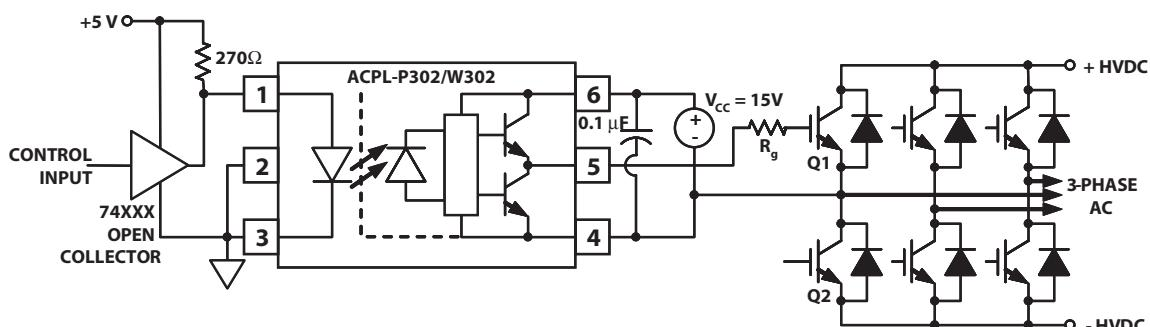
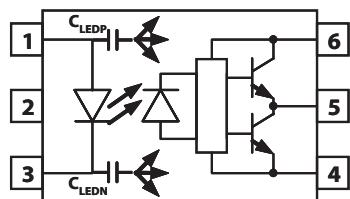
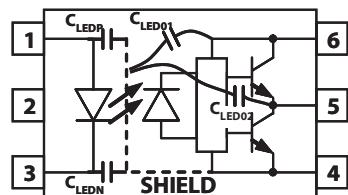
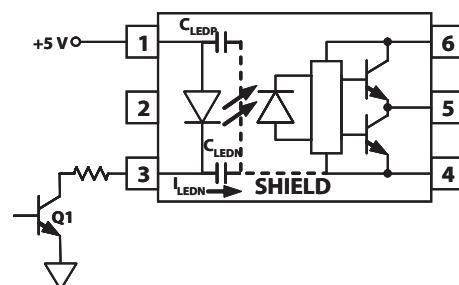

Figure 17. Recommended LED Drive and Application Circuit for ACPI-P302/W302
Figure 19. Optocoupler Input to Output Capacitance Model for Unshielded Optocouplers.
Figure 20. Optocoupler Input to Output Capacitance Model for Shielded Optocouplers.
Figure 22. Not Recommended Open Collector Drive Circuit.
To keep the IGBT firmly off, the ACPL-P302/W302 has a very low maximum V_{OL} specification of 1.0 V. Minimizing R_g and the lead inductance from the ACPL-P302/W302 to the IGBT gate and emitter (possibly by mounting the ACPL-P302/W302 on a small PC board directly above the IGBT) can eliminate the need for negative IGBT gate drive in many applications as shown in Figure 17. Care should be taken with such a PC board design to avoid routing the IGBT collector or emitter traces close to the ACPL-P302/W302 input as this can result in unwanted coupling of transient signals into the input of ACPL-P302/W302 and degrade performance. (If the IGBT drain must be routed near the ACPL-P302/W302 input, then the LED should be reverse biased when in the off state, to prevent the transient signals coupled from the IGBT drain from turning on the ACPL-P302/W302.
Step 1: Calculate R_g minimum from the I_{OL} peak specification. The IGBT and R_g in Figure 17 can be analyzed as a simple RC circuit with a voltage supplied by the ACPL-P302/W302.
where $K_{I_{CC}} \cdot Q_g \cdot f$ is the increase in I_{CC} due to switching and $K_{I_{CC}}$ is a constant of $0.001 \text{ mA}/(\text{nC} \cdot \text{kHz})$. For the circuit in Figure 17 with I_F (worst case) = 10 mA , $R_g = 57.5 \Omega$, Max Duty Cycle = 80% , $Q_g = 100 \text{ nC}$, $f = 20 \text{ kHz}$ and $T_{AMAX} = 85^\circ\text{C}$:
Without a detector shield, the dominant cause of optocoupler CMR failure is capacitive coupling from the input side of the optocoupler, through the package, to the detector IC as shown in Figure 19. The ACPL-P302/W302 improves CMR performance by using a detector IC with an optically transparent Faraday shield, which diverts the capacitively coupled current away from the sensitive IC circuitry. However, this shield does not eliminate the capacitive coupling between the LED and optocoupler pins 5-8 as shown in Figure 20. This capacitive coupling causes perturbations in the LED current during common mode transients and becomes the major source of CMR failures for a shielded optocoupler. The main design objective of a high CMR LED drive circuit becomes keeping the LED in the proper state (on or off) during common mode transients. For example, the recommended application circuit (Figure 17), can achieve 10 kV/μs CMR while minimizing component complexity.
The open collector drive circuit, shown in Figure 22, can not keep the LED off during a $+dV_{CM}/dt$ transient, since all the current flowing through C_{LEDN} must be supplied by the LED, and it is not recommended for applications requiring ultra high CMR_L performance. The alternative drive circuit which like the recommended application circuit (Figure 17), does achieve ultra high CMR performance by shunting the LED in the off state.